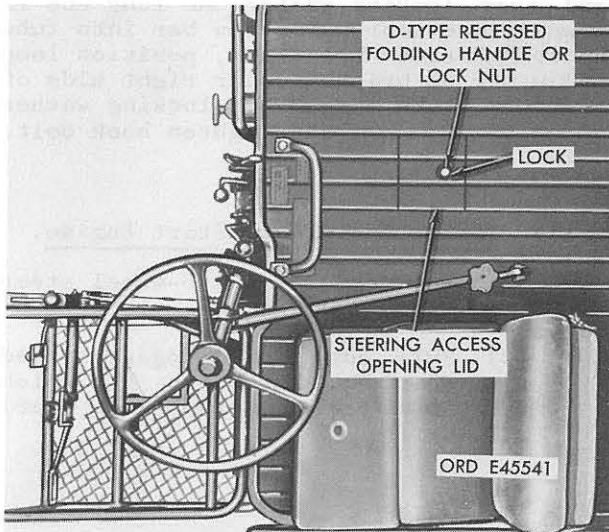

Figure 37. Location of two- or four-wheel steering access opening lid.
a. Steering Access Opening Lid (M274 Vehicle). To gain access to steering connections, remove steering access opening lid (fig. 37) by turning locknut using wrench end of emergency starting crank and wheel nut wrench (fig. 28).
b. Steering Access Opening Lid (M274A1 Vehicle). To gain access to steering connections, turn D-type recessed folding handle (fig. 37) and remove lid.